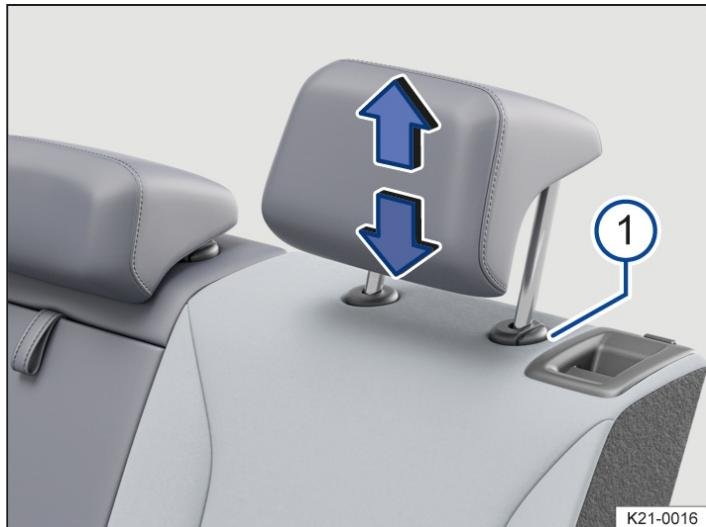

Fig. 2 Rear head restraint: adjusting (illustration).
1. While pressing the button → Fig. 2 1 if necessary, push the head restraint up or down in the direction of the arrows.